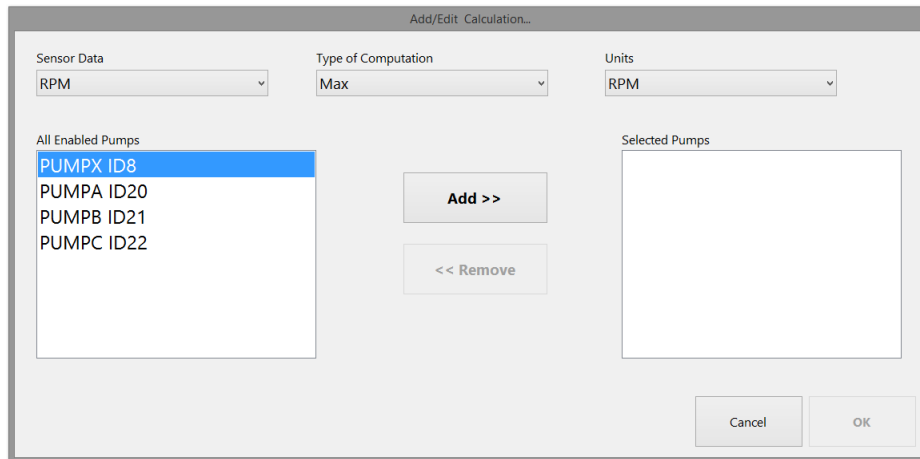

Figure 2.12: The **Add/Edit Calculation** dialog box.
2. Tap the **New Calculation** button. The **Add/Edit Calculation** dialog box will open. Figure 2.12 on page 18 shows what this window looks like when first opened.